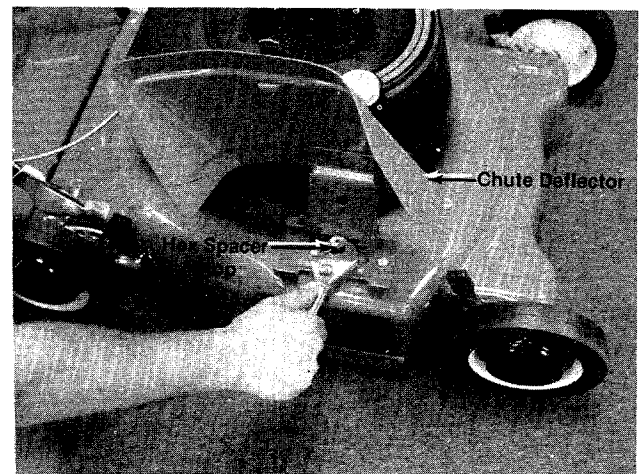

FIGURE 8.
- A. The mulching baffle is held in place by one hex spacer stop, two lockwashers and one hex nut. See figures 8 and 9.
- B. The hex spacer stop is assembled under the chute deflector. Hold the chute deflector up and place lockwasher and hex spacer stop over weld bolt on mulching baffle and tighten with an adjustable wrench. See figure 8.